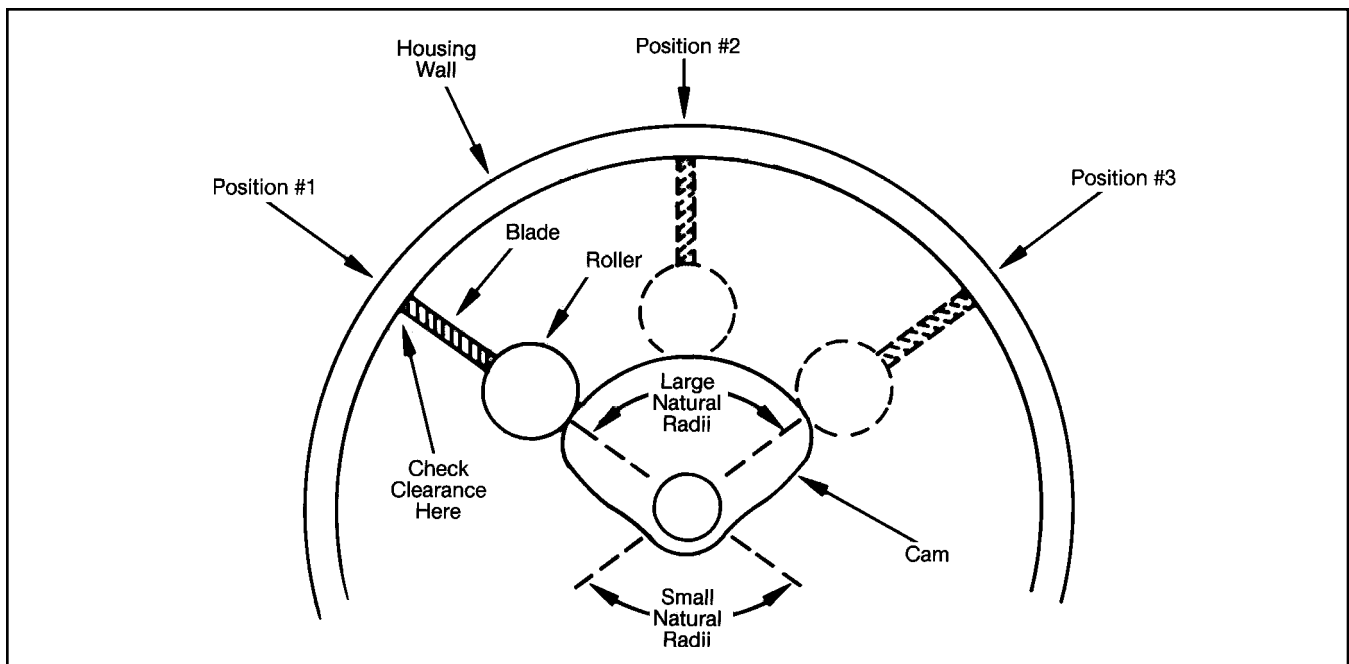

Figure 52
1. Rotate rotor until a blade is in Position No. 1 as shown in Figure 52.